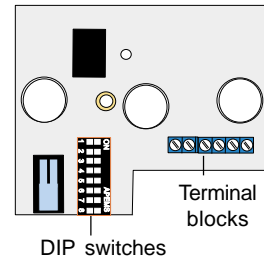

Figure 2. Circuit Board
2. Set the PinPoint address DIP switches. See Figure 2.